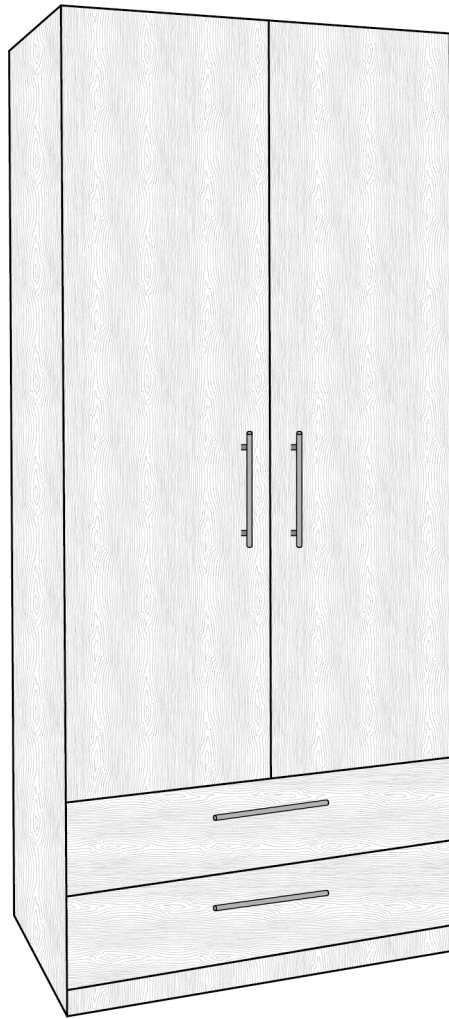

Figure 1
- 1** Figure 1 shows a wardrobe that is supplied in flat-pack form for self-assembly at home.